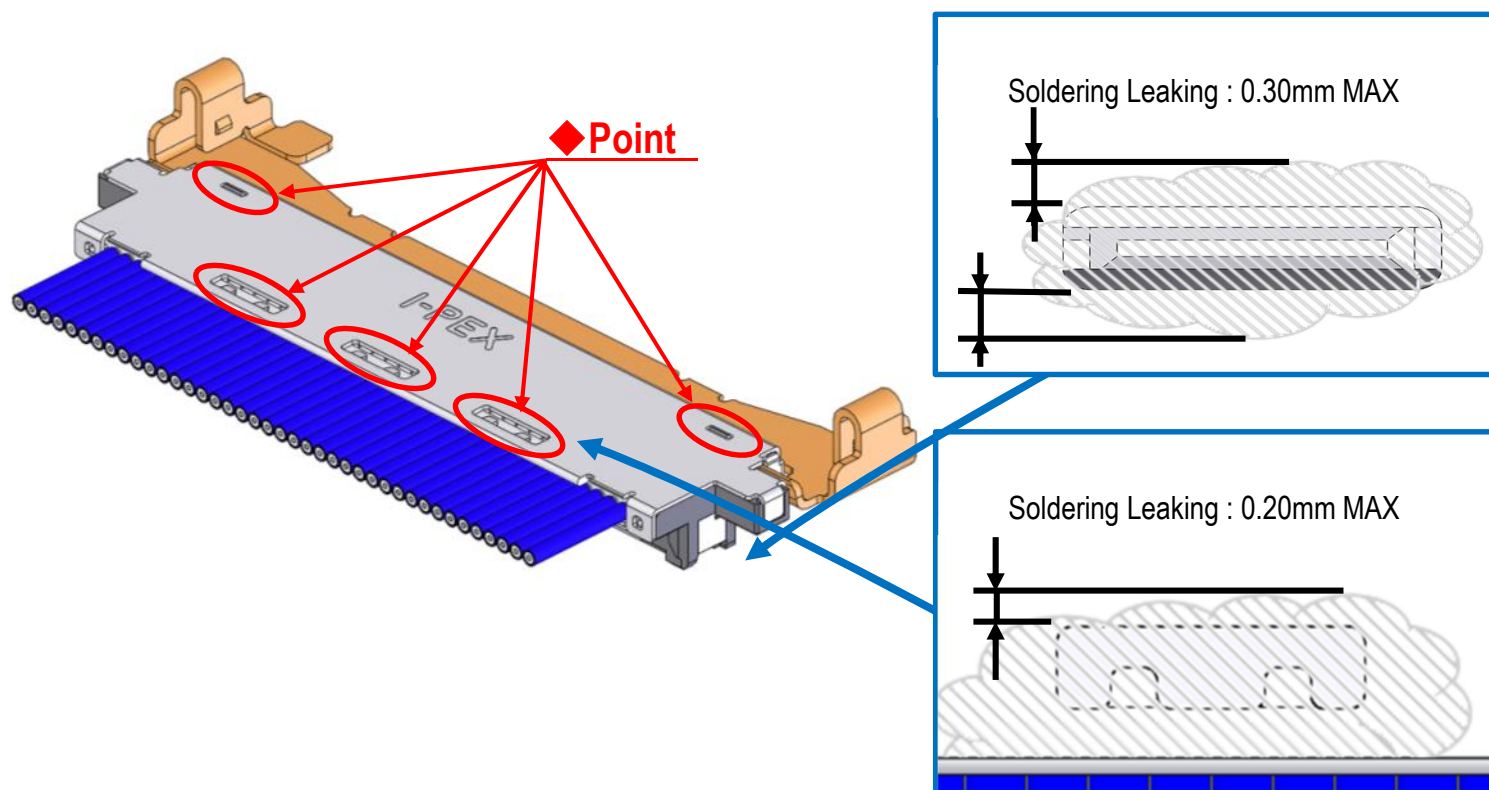

Fig.7 Soldering of Shell-A and Ground Bar
- ③ Soldering shell-A, B and ground bar with the soldering iron at designated points is recommended. (Fig.7,8◆Point)